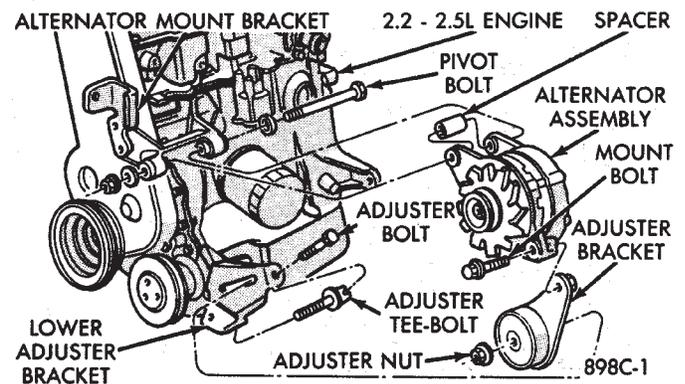

Fig. 3 Remove or Install Mounting Bolts
- (2) Remove the alternator drive belt. Refer to Group 7, Cooling System.
- (3) Remove the two alternator mounting bolts (Fig. 3) and position the alternator to gain access to all the wire connectors. If equipped with: